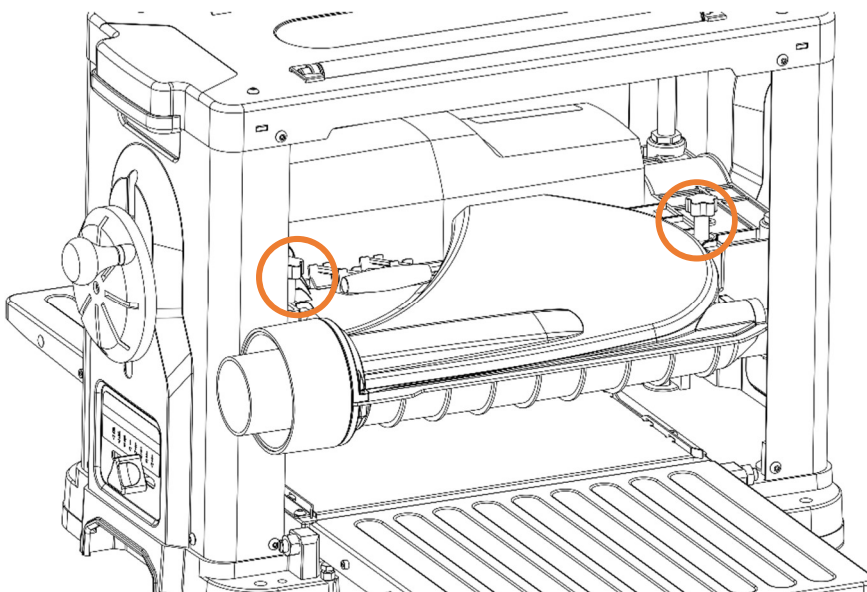

FIG 2
1. Facing the rear of the machine, locate the dust port on the cutterhead assembly by turning 2 dust port knobs. SEE FIG 2.